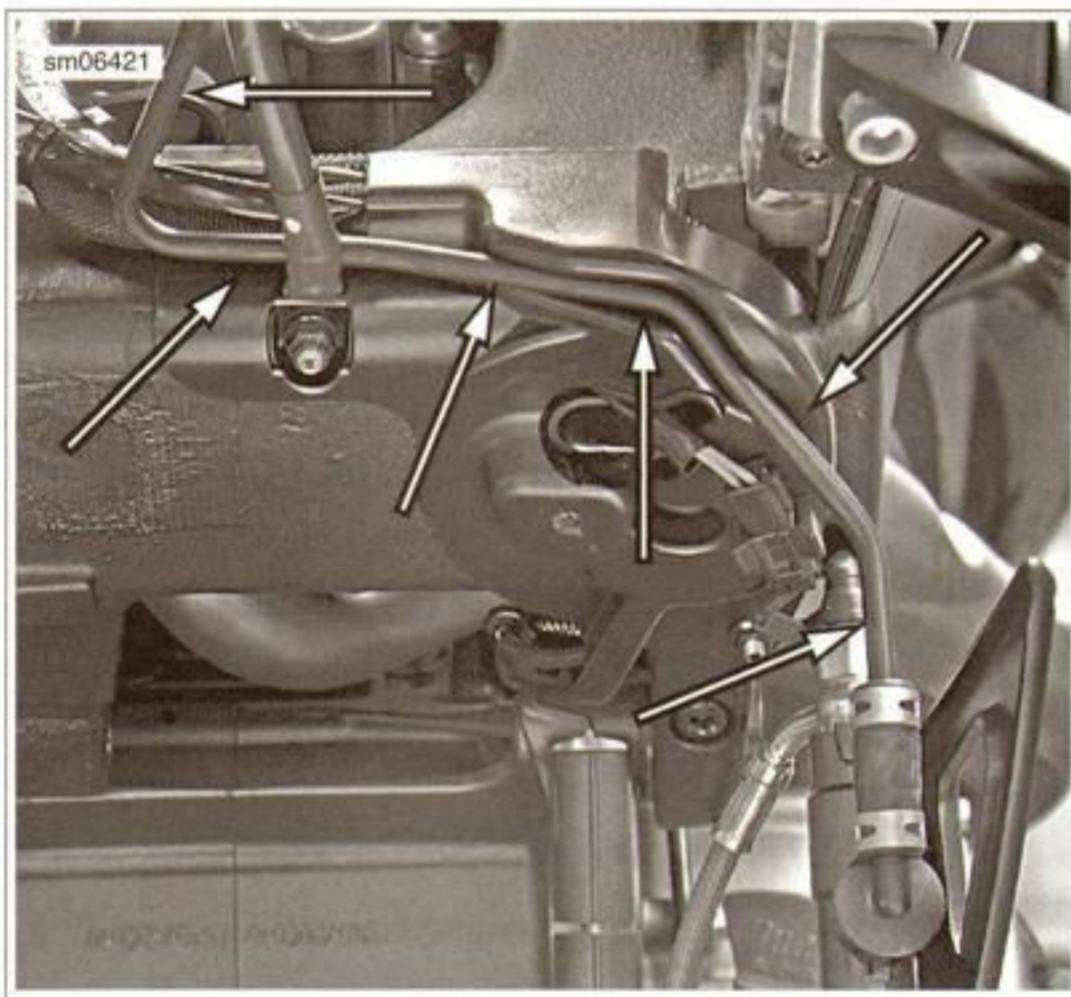

Figure 4-70. Brake Fluid Reservoir Line
8. See Figure 4-70. Route the brake fluid reservoir line in the channel on the cover.